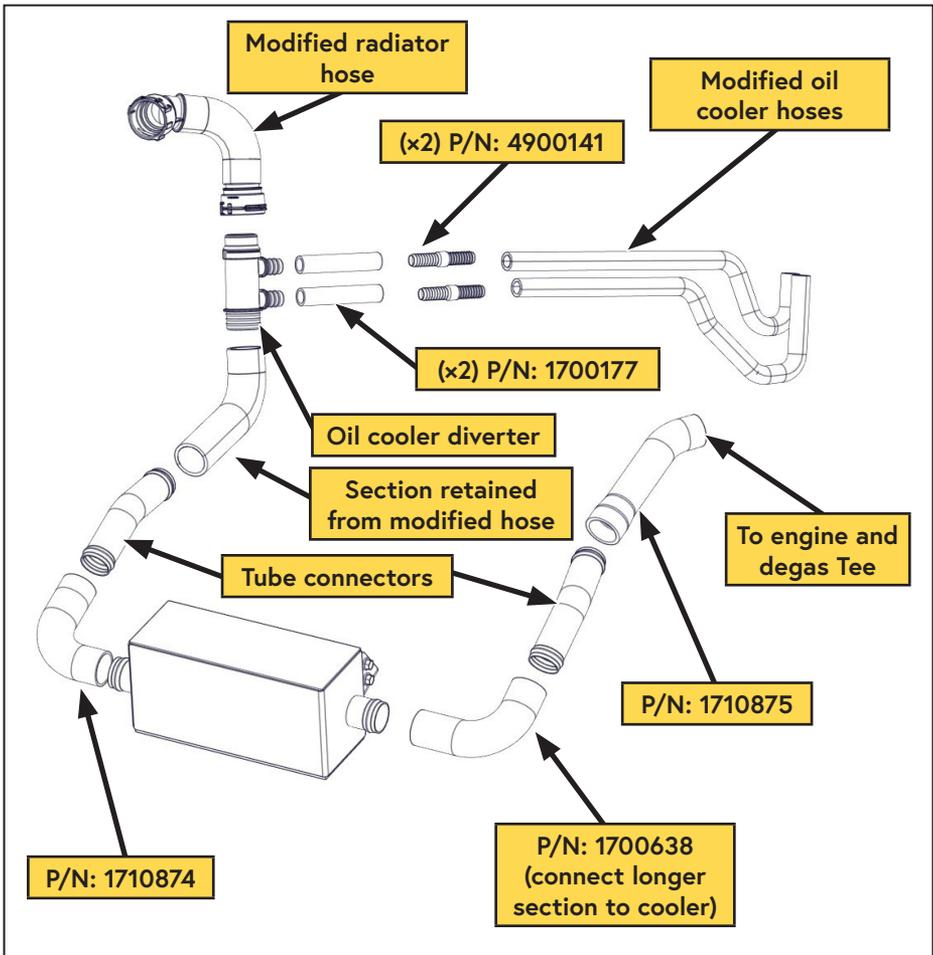

Figure 34 — Modified lower radiator hose schematic
- Insert the OEM diverter valve, with the spigots facing toward the rear of the vehicle (Figure 34).
- Install the (x2) 24 in lengths of heater hose onto the oil cooler diverter (Figure 34).
- Using the supplied gear clamps, install the hose barbs into the heater hoses (Figure 34).
- Using the supplied gear clamps, install the modified oil cooler hoses onto the hose barbs, and connect them to the OEM oil cooler (Figure 34).
- Install the modified radiator hose between the diverter and the radiator (Figure 34).
- Install the supplied hose between the driver side tube connector, and the degas bottle Tee (Figure 34).